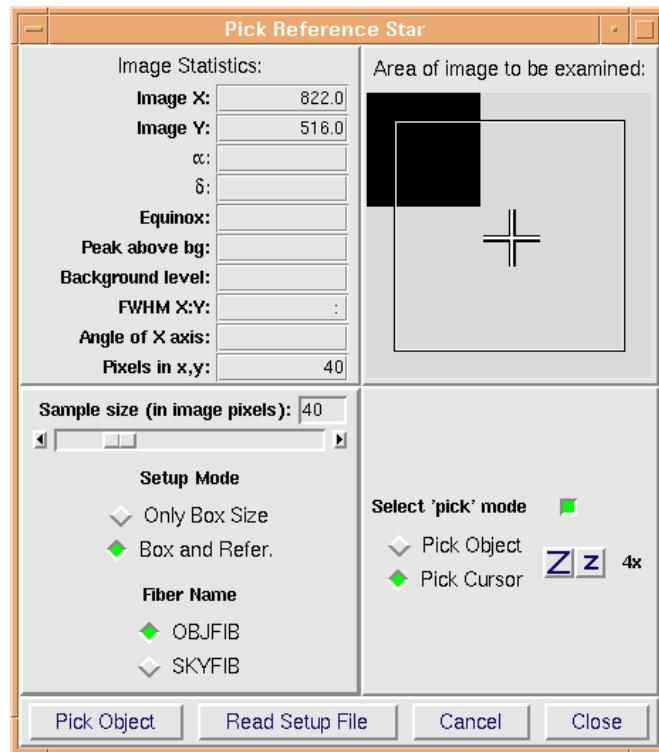

Figure 6.1: Window to set FEROS fibre reference position Pick reference star. Select checkbox Pick Cursor.
- Open or activate window Pick reference star (Fig. 6.1).